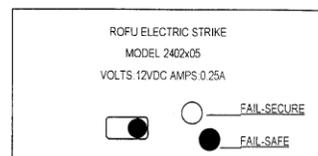

Figure 2
2. **Power Fail-Safe** - Should a power failure occur, the strike would revert to an UNLOCKED condition. This is commonly referred to as "Power Fail Safe" or "Power Fail Unlock". This configuration is not typically used where a secured area may be compromised. (Fig. 2) If you are using a strike that is already installed or if you plan to supply the electric strike, verify that it is compatible with the electrical requirements for Guardian II controller and that it will function properly for your application.